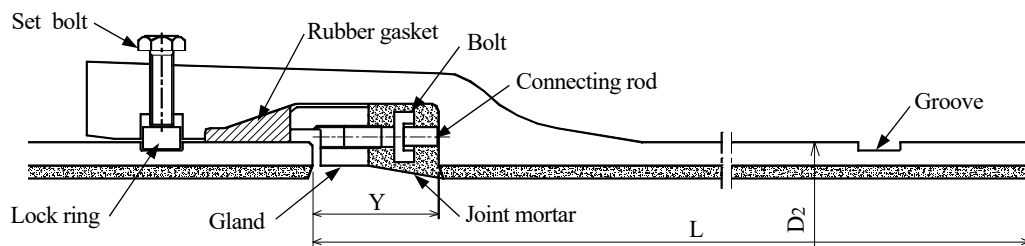

Figure 1 Pipe with UF joint
- (1) Abbreviation symbol: $\text{D} \text{---} \times$
- (2) Pipe size: 28 in. to 104 in. (In this manual, pipes size 28 in. to 40 in. and 84 in. to 104 in. are omitted.)
- (3) Nominal pipe wall thickness: Class PF
- (4) UF joint: see Figure 1
- (5) Dimensions of pipe: see Figure 1 and Table 1